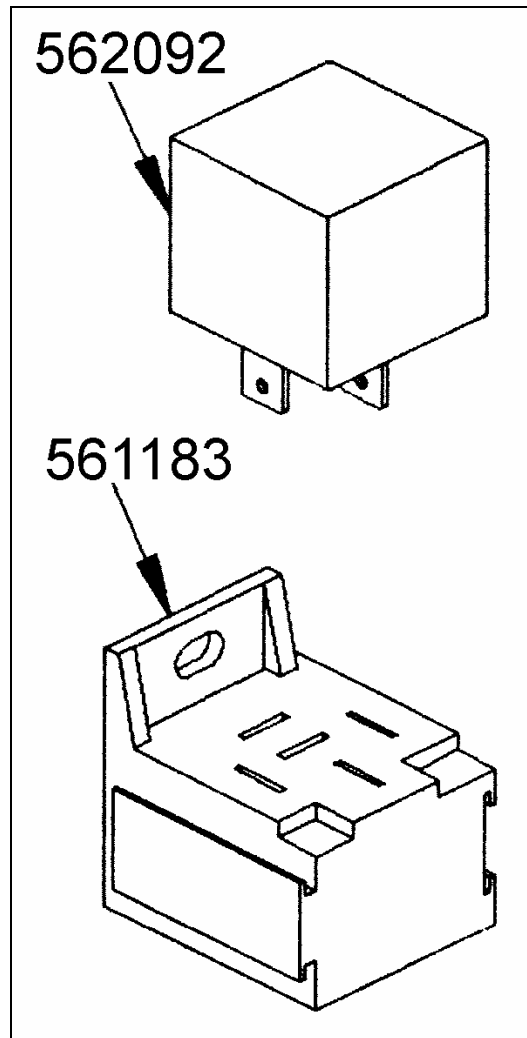

FIGURE 3: RELAY AND BASE
5. Install mini relay (562092) in the front junction box (Refer to figure 3).